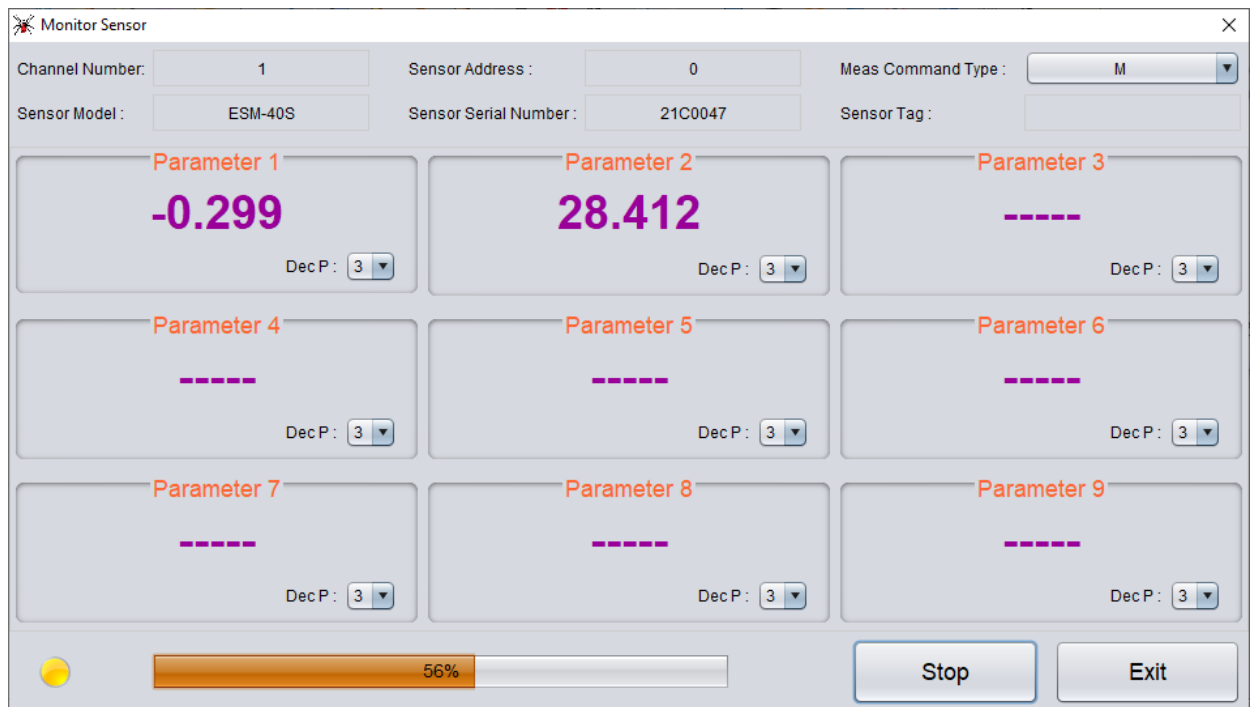

Figure 7-9 ESM-40S sensor readings
- Press “Monitor Sensor” button. The screen as shown in figure 7-9 will appear, showing the values of settlement reading (Parameter 1) and temperature reading (parameter 2) of the sensor.